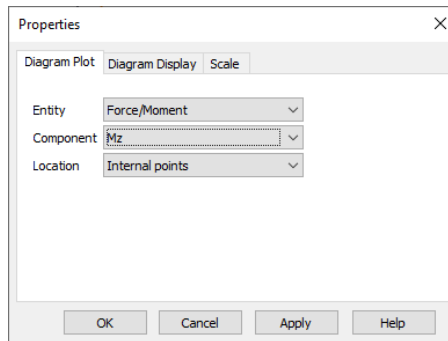

Figure 73: Diagram Properties Dialog
- Right-click in the view window and select **Diagrams...** From the **Component** dropdown box select **Mz** and click **OK** (figure 73).